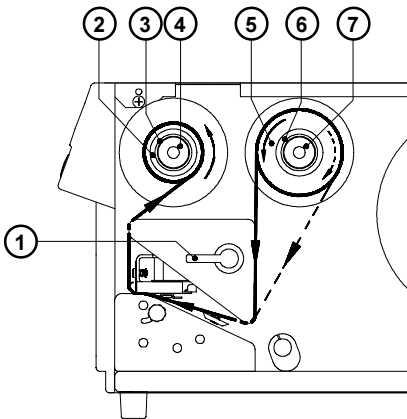

Fig. 6d Loading thermal transfer ribbon
3. Turn the knurled knob (7) until offering resistance and so jam fast the transfer ribbon (5) at the ribbon supply hub (6).
4. Slide an empty cardboard core (2) onto the ribbon take up hub (3) and jam fast it by turning the knurled knob (4).
5. From the side, feed the transfer ribbon along the path as shown in Figure 6d, then attach it to the core (2) using adhesive tape or a label.
6. Turn take up hub (3) in order to smooth and stretch the ribbon.
7. To lock the printhead, turn the lever (1) back counterclockwise.